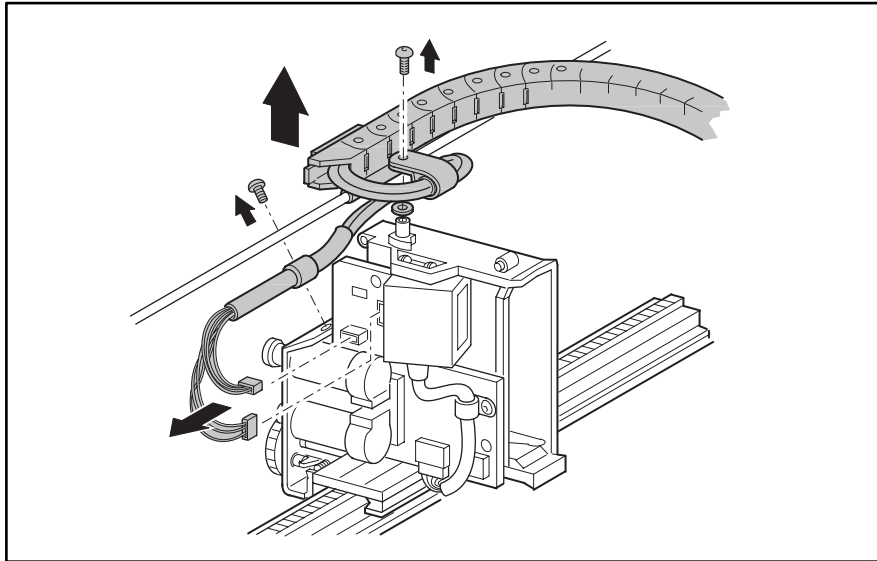

Figure 2-33: Removing the shuttle assembly
12. Remove the cables at J3 and J9 on the shuttle assembly board (see Figure 2-33).
13. Remove the screw holding the cable clamp above the pulleys (see Figure 2-33).
14. Remove the retaining screw, cable clamp, and spacer where the flex cable/chain assembly pivots on top of the shuttle assembly (see Figure 2-33).